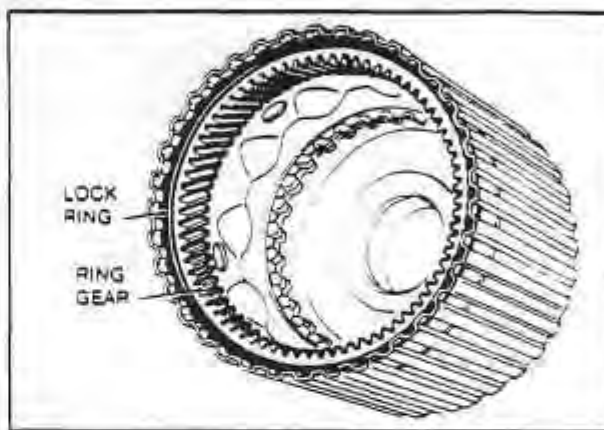

Fig. 61 C-2 RING GEAR
1. Remove the lock ring and the ring gear from the clutch housing. *Fig. 61*